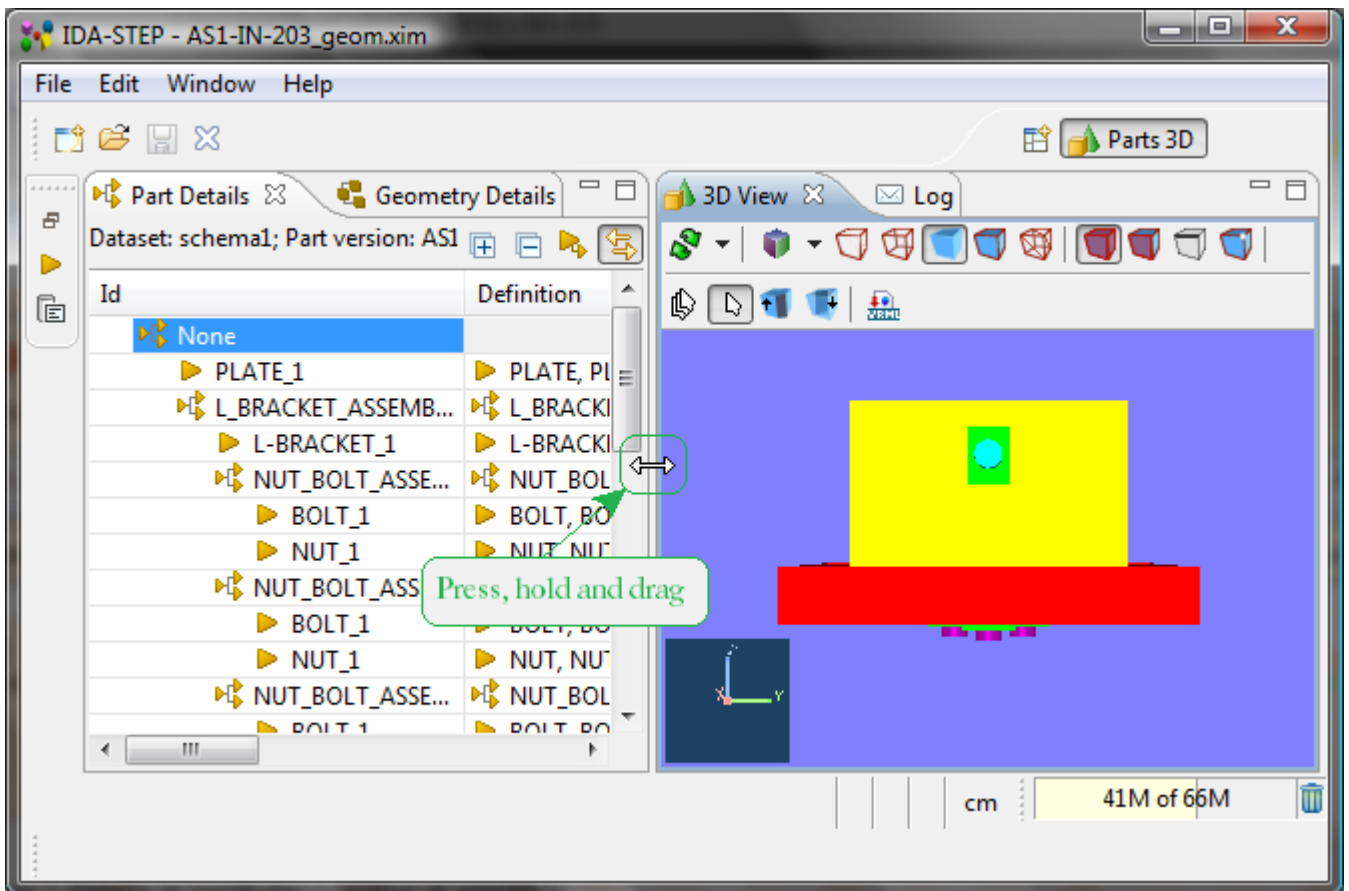

Figure 1. IDA-STEP workbench with resize mouse pointer
- Press the mouse button, hold and drag to available direction to resize the view area (see Figure 1).